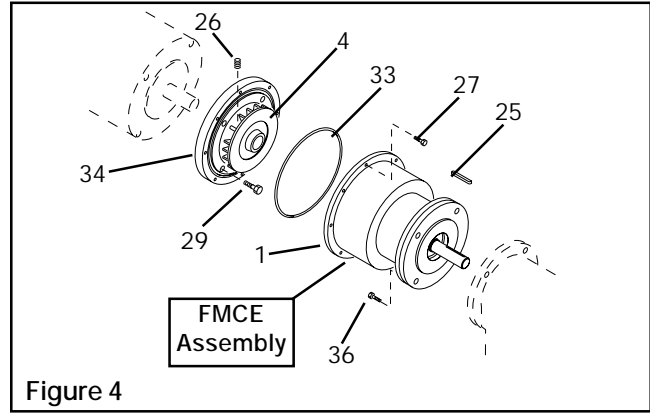

Figure 4
1. Remove the eight Hex. Head Cap Screws (Item 27); then, separate the Female Pilot (Item 34) and Drive Disc (Item 4) from the FMCE Assembly (See Figure 4).
3. Slide the Female Pilot (Item 34) and the Drive Disc (Item 4) onto the motor shaft (See Figure 4).
4. Using four Nexen supplied 0.375-16 x 1.000" Hex. Head Cap Screws (Item 29), secure the Female Pilot and the Drive Disc to the motor (See Figure 4).
5. Alternately and evenly tighten the four Hex. Head Cap Screws (Item 29) to 20.3 Nm [15 ft-lb] torque (See Figure 4).
6. Tighten the Set Screw (Item 26) to lock the Drive Disc (Item 4) onto the motor shaft (See Figure 4).
7. Coat the O-ring Seal (Item 33) and the seal contact surface with a film of O-ring lubricant, then wipe off any excess lubricant (See Figure 4).
8. Slide O-ring Seal (Item 33) onto the seal diameter of the Female Pilot (Item 26) (See Figure 4).
9. Slide the FMCE Assembly onto the Female Pilot (Item 26) and Drive Disc (Item 4) (See Figure 4).
10. Using eight Nexen supplied 0.250-20 x 0.875" Hex. Head Cap Screws (Item 27), secure the FMCE Assembly to the Female Pilot and Drive Disc (See Figure 4).
13. Using four Nexen supplied 0.375-16 x 1.500" Hex. Head Cap Screws (Item 36), secure the Male Pilot end of the FMCE Assembly to the gear reducer (See Figure 4).
4. Slide the Female Pilot Assembly onto the Input Unit shaft (See Figure 4).